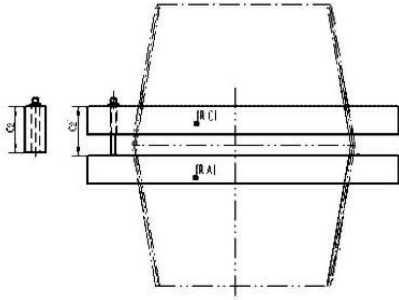

Figure 5
c.1 Screw the reference ring gage RA and big end ring gage RC into two end of nipple, set indicator to zero via set gauge block, then get $\Delta C2$ (See Figure 5 & 6, actual $C2' = \Delta C2 + C2$), calculate the actual PD for the nipple thread.